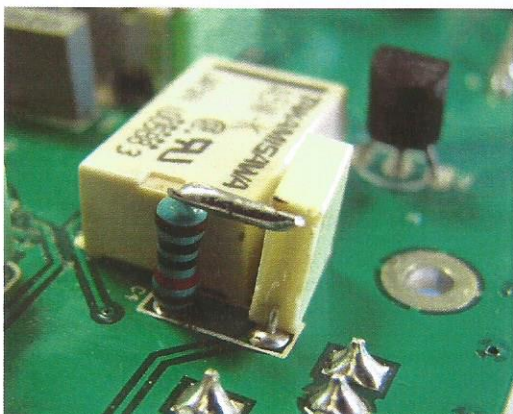

Figure 3
6. Solder the resistor and capacitor together, and crop excess wire. Then solder the legs on the PCB surface-mount side. See Figure 3.